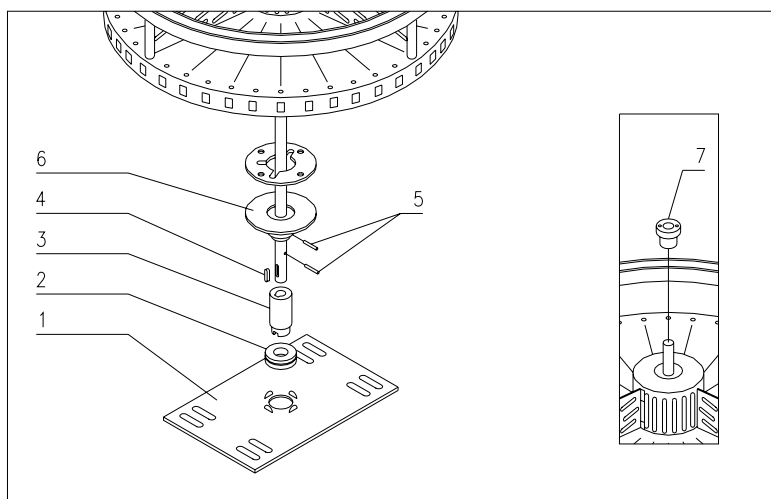

FIG. 12
- 6) Unscrew the plate holding the bush and remove the whole (part.1-2-3 FIG. 12). Set out some reference points around the plate in order to remount everything in the correct position.
- 7) Move the column to the bottom of the machine so that its shaft exits the plastic bushing (part. 7 FIG. 12).
- 9) Remove the key (part. 4 FIG. 12), the plugs (part. 5 FIG. 12) that clamp the dragging hubs (part. 6 FIG. 12) and take out the drums.